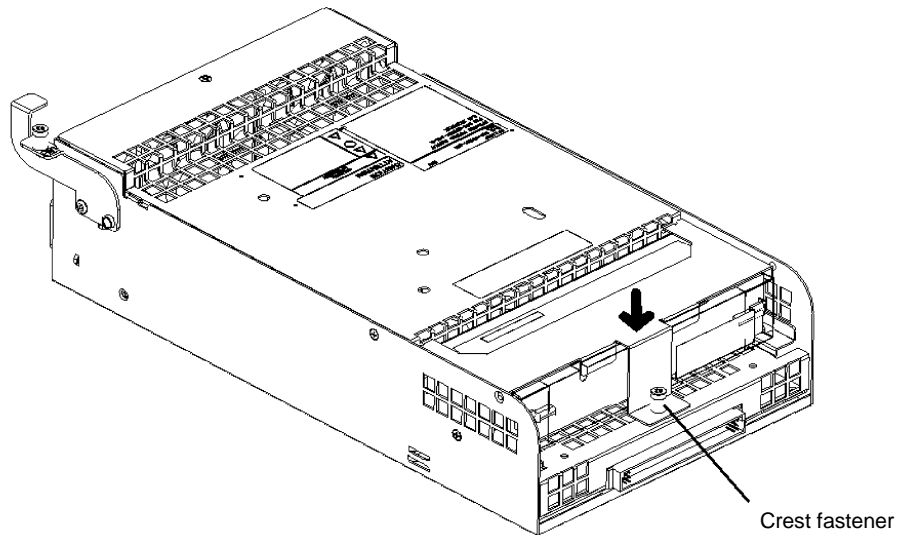

Figure 3-25. Securing the Crest Fastener.
11. Secure the crest fastener to the power supply. See Figure 3-25.